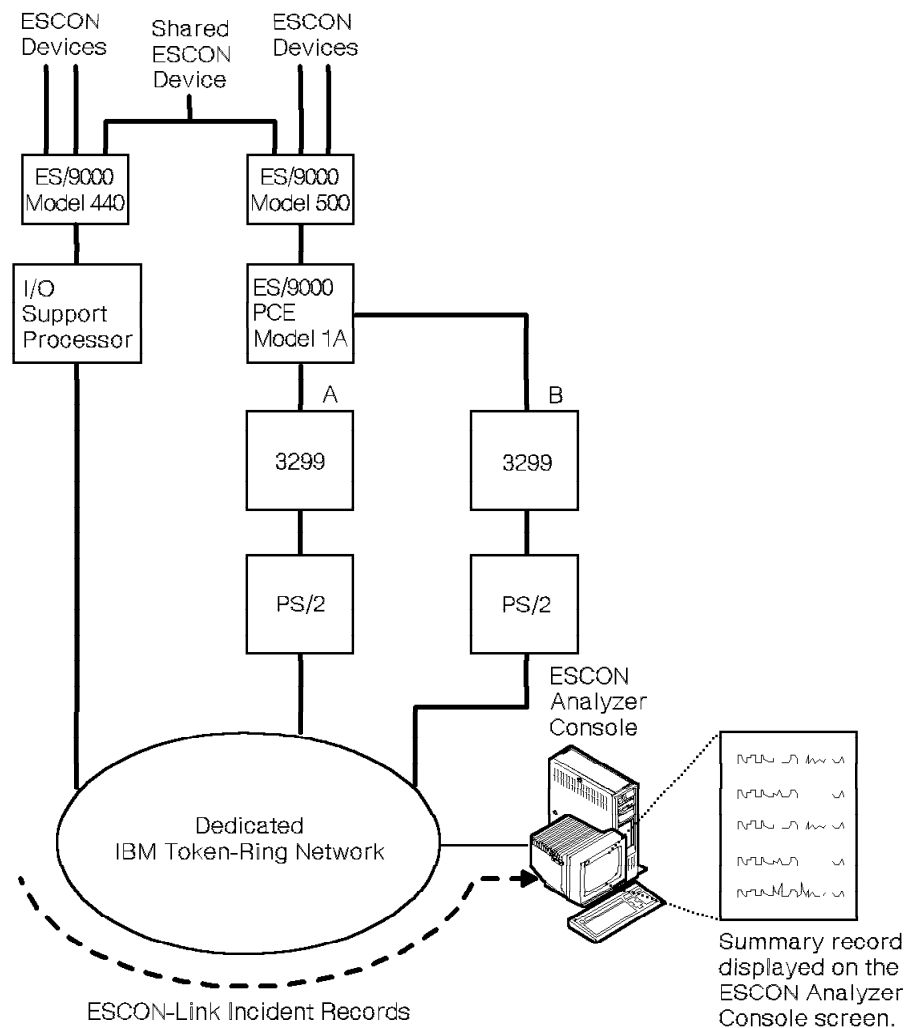

Figure 15. Example of an ESCON Analyzer Configuration
Refer to Figure 15 for an example of an ESCON Analyzer configuration.
Figure 15 is an example and does not show all possible combinations of ESCON Analyzer configurations.
*Required Hardware to Attach a 3092 or 9022 Processor Controller (PCE) to the IBM Token-Ring Network:* Figure 15 on page 88 illustrates the typical PCE attachment to the ESCON Analyzer IBM Token-Ring Network. 3092 Models 1,2, and 3 use a different connection method. Refer to the publication *IBM Processor Controller Element—LAN Support: Description/Installation/Operation* for details about connecting processor controllers to the ESCON Analyzer token-ring network.